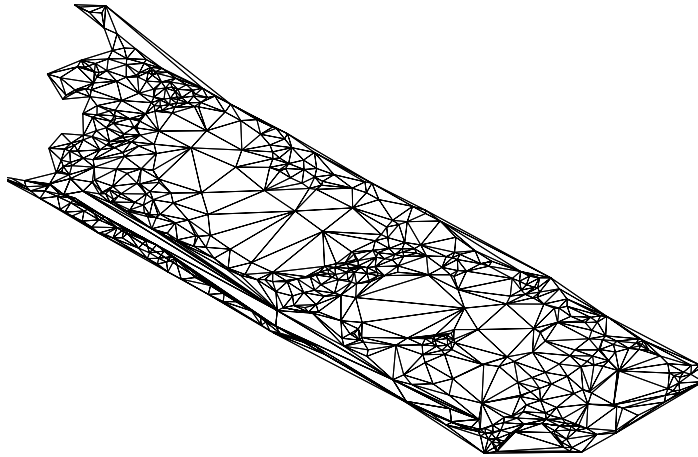

Figure 3-68 The EG surface after pasting the E Street surface
4. Select **E Street** from the dialog box and choose the **OK** button; the dialog box is closed and the **E Street** surface is pasted on the **EG** surface. Civil 3D has now recalculated triangulation and has built the **EG** surface taking breaklines into account. Notice the change of the **EG** surface in the region of added breaklines, refer to Figure 3-68.